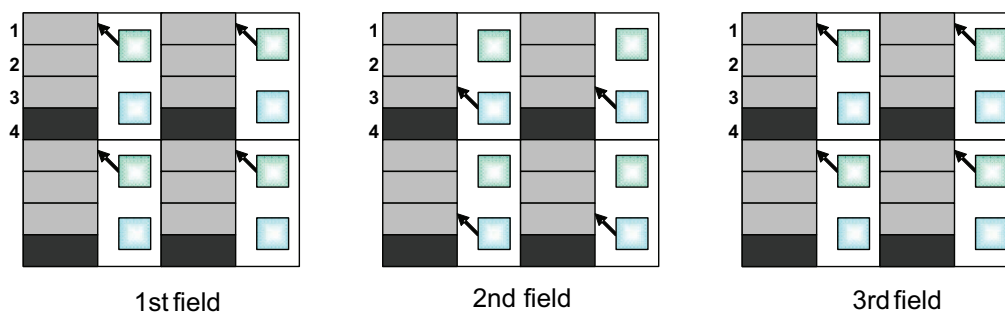

Figure 54: Format_7 Mode_1: 4-phase vertical shift register precharging (interlaced, frame)
- see Figure 54: Format_7 Mode_1: 4-phase vertical shift register pre-charging \(interlaced, frame\) on page 104